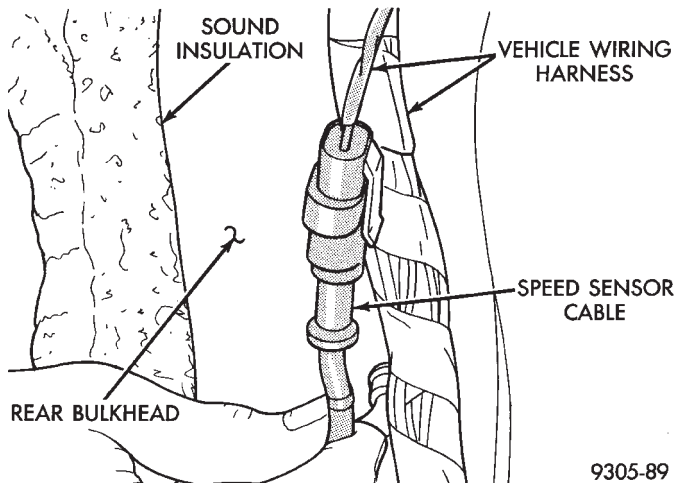

Fig. 10 Rear Speed Sensor Cable To Vehicle Wiring Harness Connection
(1) Remove the rear seat lower cushion and seat back cushion from vehicle. Refer to group 23 Body in this service manual for required rear seat cushion removal procedure.
(2) Lift edge of sound insulation on rear bulkhead (Fig. 10). Locate speed sensor cable to vehicle wiring harness connector (Fig. 10). Disconnect speed sensor cable from vehicle wiring harness.